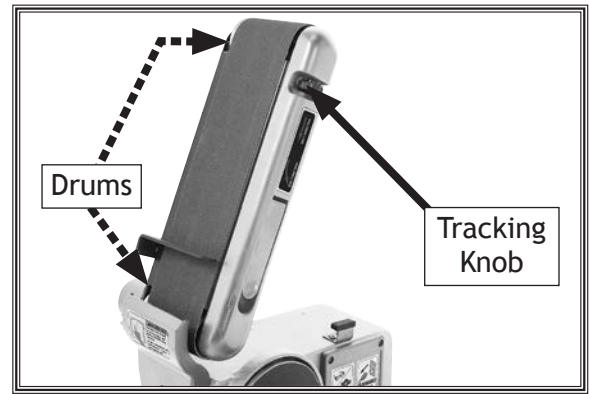

Figure 25. Belt tracking components.
3. If sanding belt moves toward disc (front of sander), rotate tracking knob (see **Figure 25**) clockwise $\frac{1}{4}$ turn. If sanding belt moves away from disc (toward back of machine), rotate tracking knob counterclockwise $\frac{1}{4}$ turn.